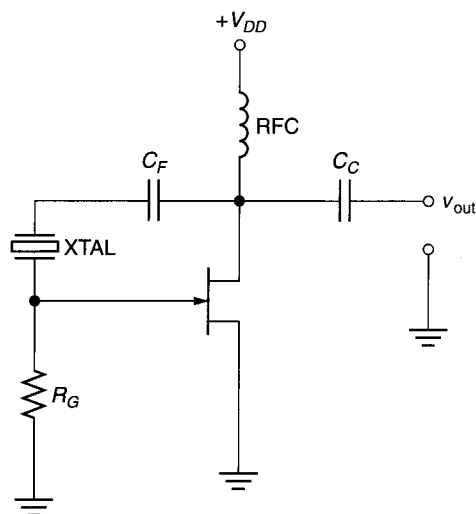

FIGURE 18.23 Pierce oscillator.
The simplest of the crystal oscillators is the *Pierce oscillator*, shown in Figure 18.23. It has only four components and a crystal. This oscillator is not highly stable, but its simplicity has kept it around for years.
31. The *Pierce* oscillator is the simplest CCO (see Figure 18.23).